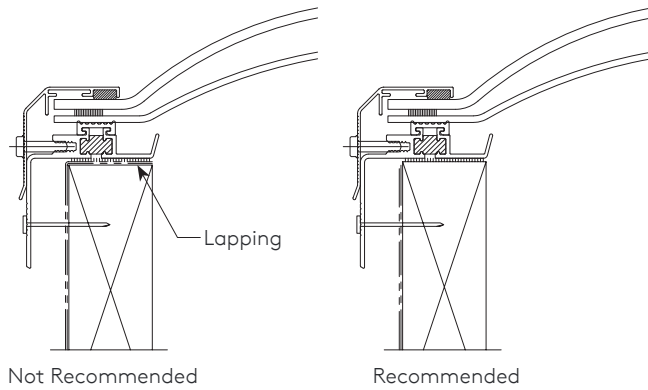

Figure 2.0
- Running the roof material up the side of the curb is common. Running or lapping the roof material over the top of the curb is not recommended. (See Figure 2.0) This practice often creates an uneven surface for mounting the skylight resulting in a poor seal even with the application of a sealant bead on the top of the curb before installing the skylight. The result is often air and/or water leakage between the skylight and curb to the interior of the building.